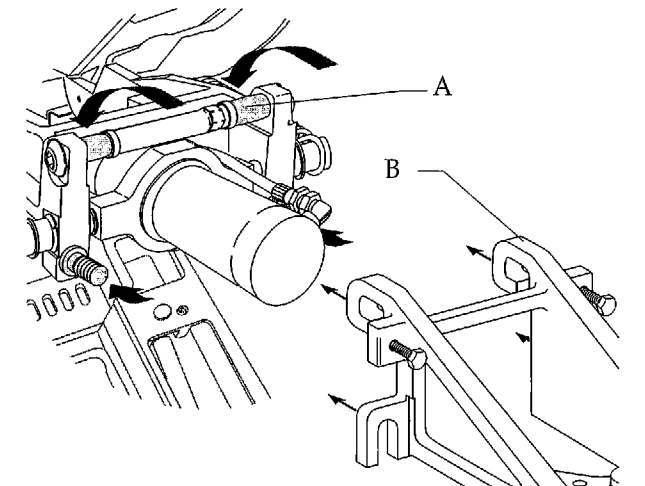

Figure 10. Hanging the front-mount arm on the leveling cam. (A) leveling cam; (B) front-mount arm
5. Hang the arm on the leveling cam (see Figure 10).